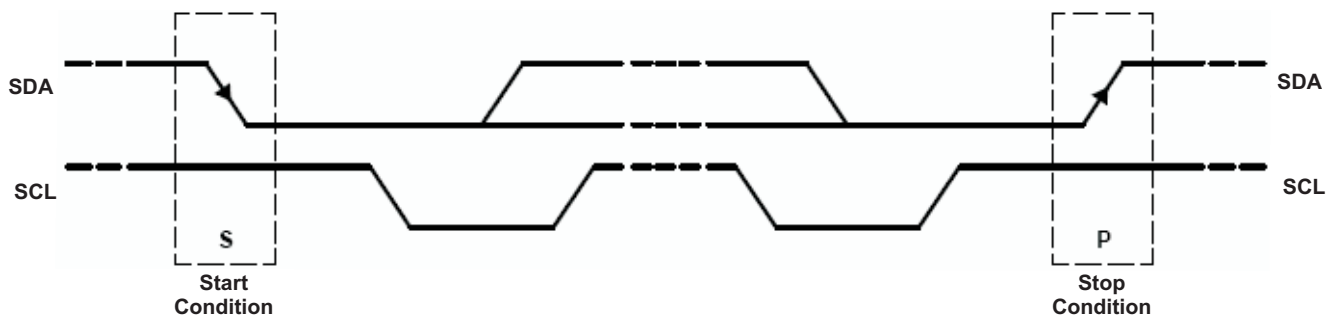

Figure 31. I2C Start and Stop Conditions
The basic I2C start and stop access cycles are shown in Figure 31.
- The *master* initiates data transfer by generating a *start condition*. The *start condition* is when a high-to-low transition occurs on the SDA line while SCL is high, as shown in Figure 31. All I2C-compatible devices should recognize a *start condition*.
- To signal the end of the data transfer, the master generates a *stop condition* by pulling the SDA line from low to high while the SCL line is high (see Figure 31). This releases the bus and stops the communication link with the addressed slave. All I2C compatible devices must recognize the *stop condition*. Upon the receipt of a stop condition, all devices know that the bus is released, and they wait for a *start condition* followed by a matching address.